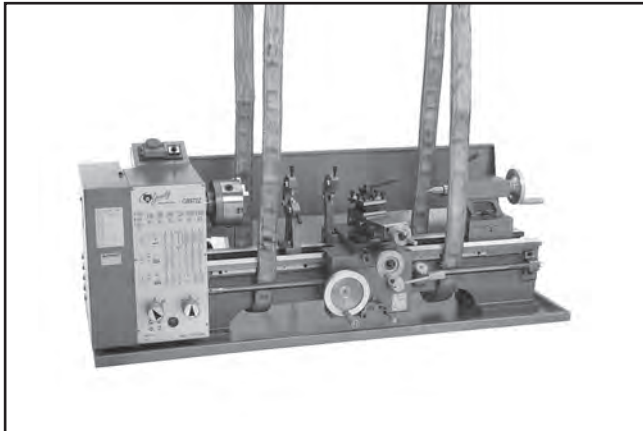

Figure 8. Lifting strap positions.
4. Wrap the lifting straps around the bed and between the leadscrew and the bedway, as shown in **Figure 8**.